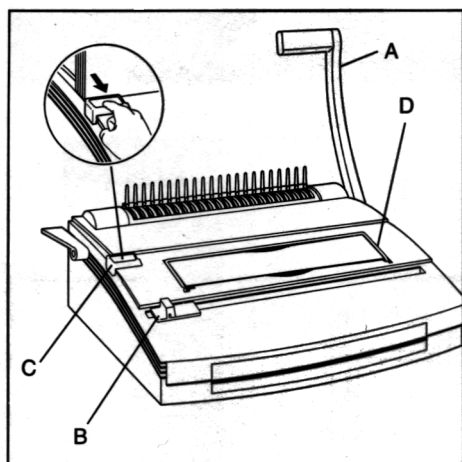

Figure 1
1. Push the handle (A) onto the punching shaft located on the right side of the machine (see figure 1). Align the flat spot of the handle with the flat of the shaft.
1. Set Edge Guide (B) to paper size you wish to bind (11", 8-1/2" letter size, 11-1/4" oversized cover, A4 ring, A5, Japan A4) (see figure 1). When using oversized covers, set the Edge Guide on Covers, punch all of the covers for your job and set aside. Move the Edge Guide back to the 11" setting to punch your contents then bind.
1. Slide the Binder Sizer open (C) (see figure 1).